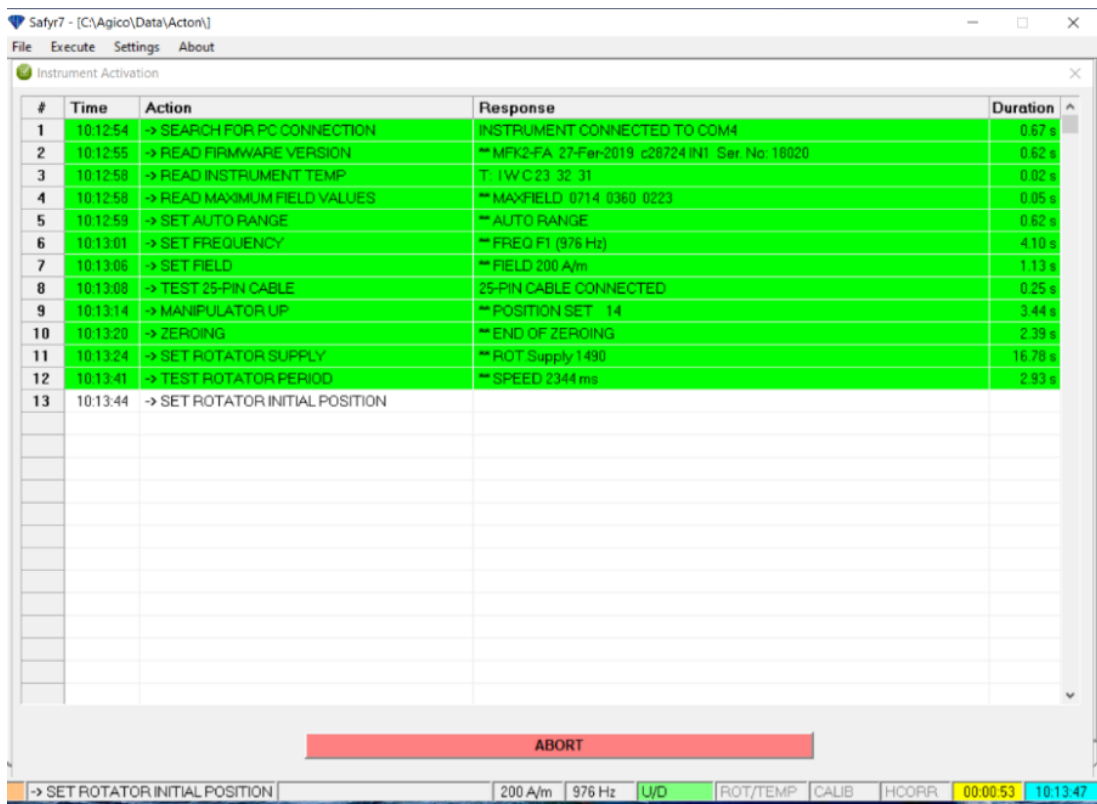

Figure 6: Instrument Activation Window during activation process
4. Wait for initialization of instrument. Instrument status (Figure 6) will be displayed on screen as initialization is completed.